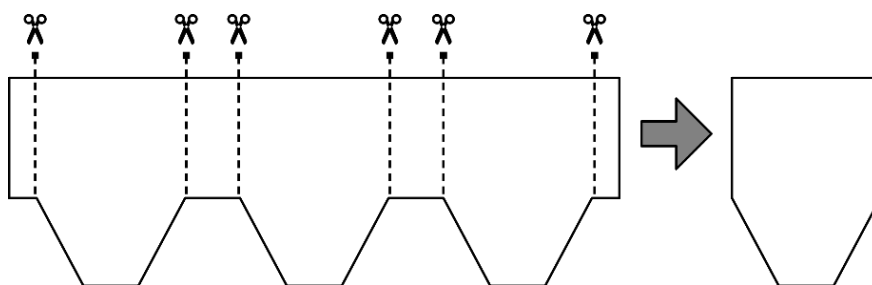

Fig. 10 - Ridge elements preparation
- Make the ridge elements by cutting each shingle, as shown in Fig. 10.